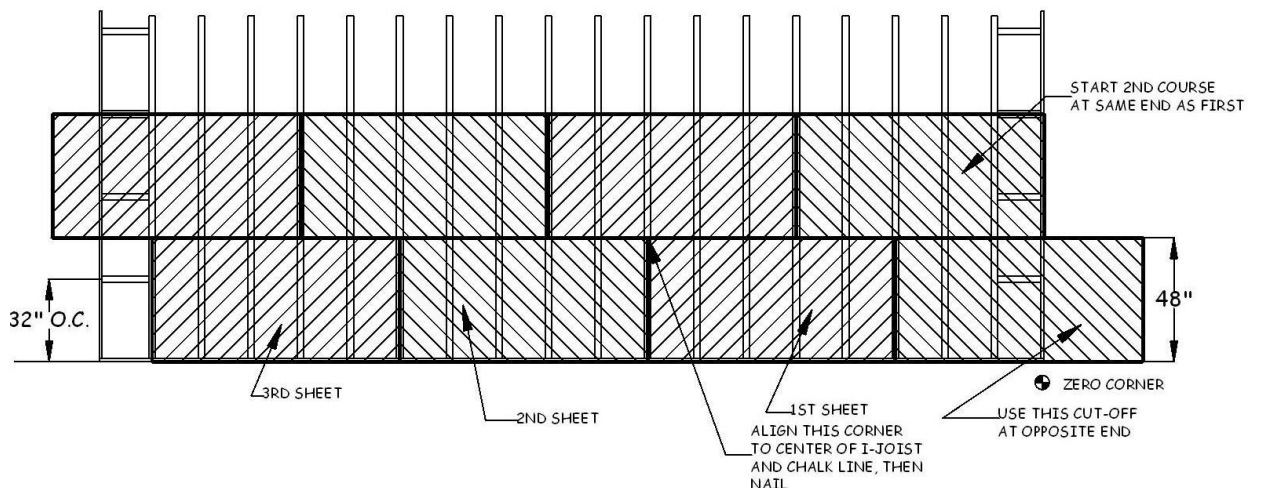

Figure 2-3. Floor Decking Layout.
7. Complete the first row of decking and, if desired, snap a chalk line for adhesive installation of the next row. Make sure to stagger the joints of the decking, preferably by two I-joists (see Figure 2-3).